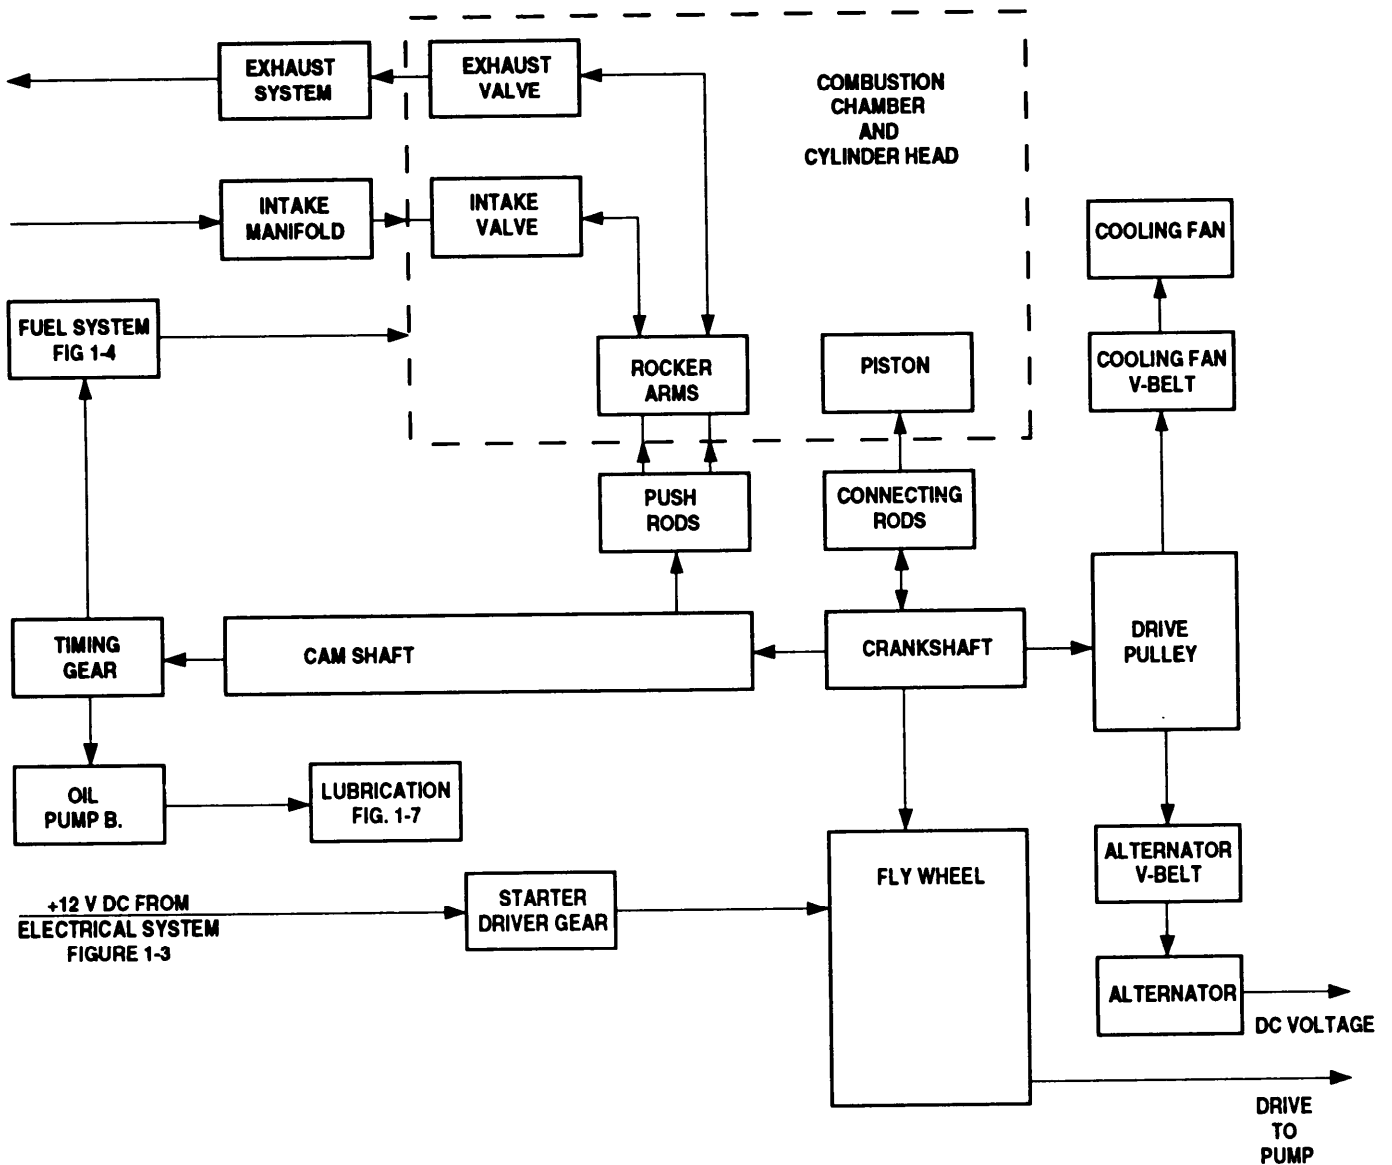

Figure 1-7. Engine Functional Block Diagram.
1.14.2.5 Engine Assembly. The engine assembly (Figure 1-7) provides the drive for the 350 GPM pumping assembly. When the engine is started, starter motor B1 turns the crankshaft. When the crankshaft is turned, the pistons , and valves move up and down. While one of the pistons is moving upward, fuel is injected into the combustion chamber and mixed with air at a controlled rate. The temperature inside the combustion chamber causes the fuel and air to burn (combustion). This combustion forces the piston downward, which causes the crankshaft to rotate and the engine to start. The starter motor B1 is then disengaged. The up and down movement of the pistons continues with fuel being injected into selected cylinders. The rotation of the crankshaft also turns the camshaft and timing gears. The timing gears turn the oil pump and the fuel pump. Oil is pumped through the lubrication system and fuel is pumped to the fuel injectors. In addition, the drive pulley rotates and drives the V-belts. The V-belts operate the cooling fan and alternator. The cooling fan keeps the oil and engine cool to prevent overheating. The alternator provides 14 V dc. The following paragraphs provide a more detailed description of diesel engine operation.